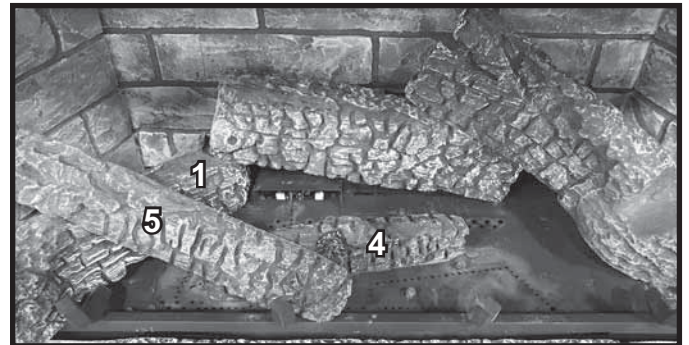

Figure 8. #5 Installed
**LOG #5:** Notch on burnout end of Log #5 rests on grate tine, bark end rests on notch of Log #1. Slide burnout end of log back until it touches Log #4. See Figure 8.